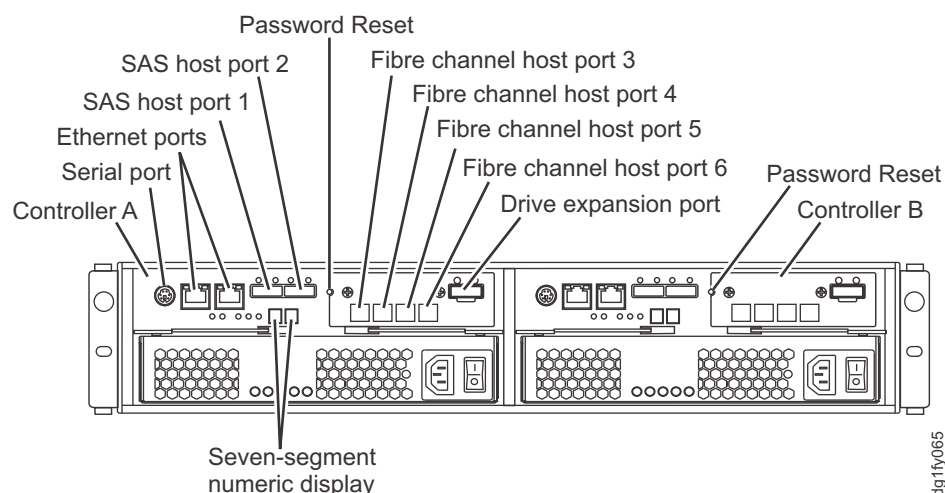

Figure 55. Location of host connectors on storage controllers
2. Connect the Fibre Channel cables to the SFP modules in the controller host ports and to either the SFP modules in the Fibre Channel switch or the optical interface connector on the host bus adapters. Figure 55 on page 65 shows the location on the controllers of the storage subsystem ports where the host-system cables connect.